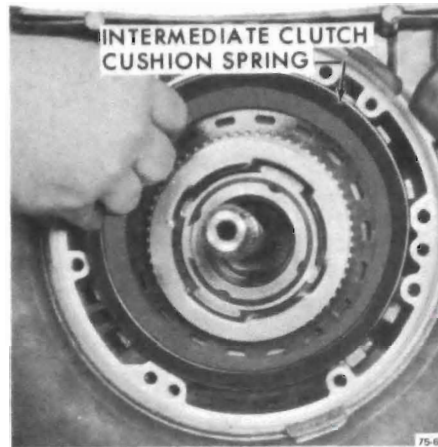

Figure 75-100
1. Remove intermediate clutch cushion spring. See Figure 75-100.